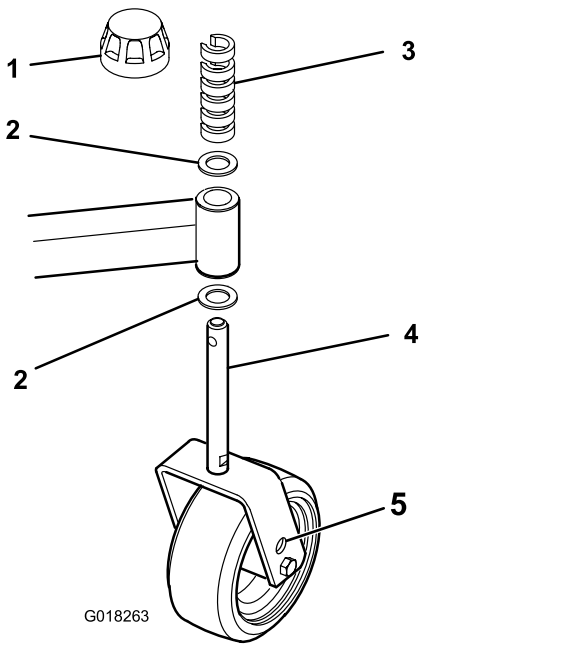

Figure 10
2. Position the castor wheel axles in the same holes in all castor forks. Refer to Figure 8, Figure 9 and Figure 10 to determine the correct holes for the setting.
1. Remove the tensioning cap from the spindle shaft (Figure 10).